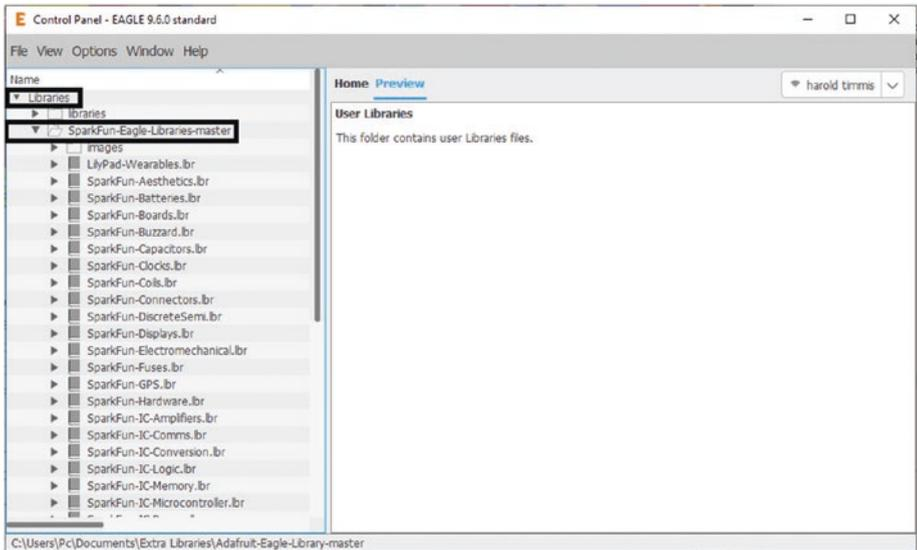

Figure 5-12. Shows the SparkFun Eagle library loaded
10. On the front screen of Eagle, go to the Libraries drop-down and click the arrow. See Figure 5-12.